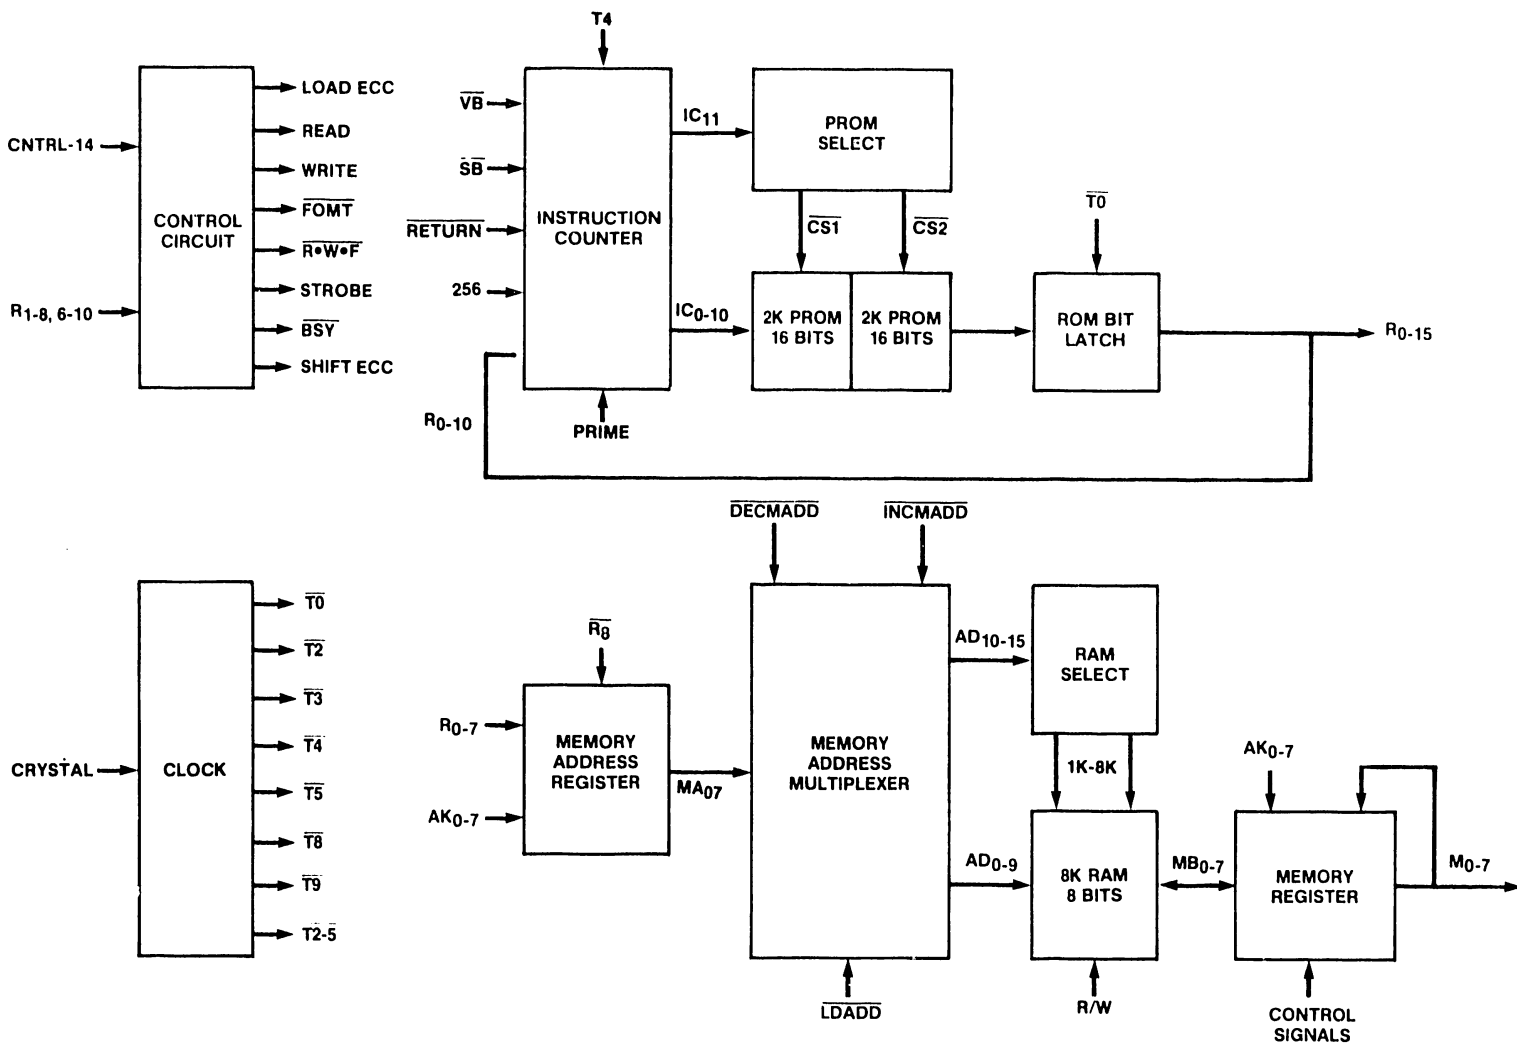

Figure 5-1. WL No. 210-7423-A RAM/PROM Control Block Diagram
5.1.1 WL No. 210-7423-A RAM/PROM Control Board (see figure 5-1)